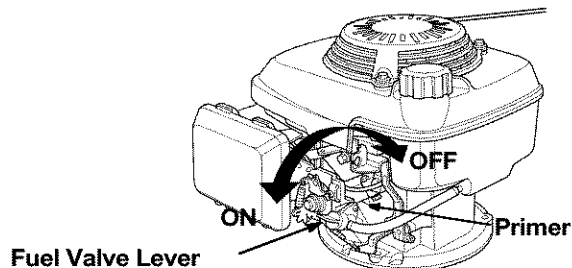

Figure 15
- If the engine is equipped with a fuel valve lever, move it to the ON position. See Figure 15 .